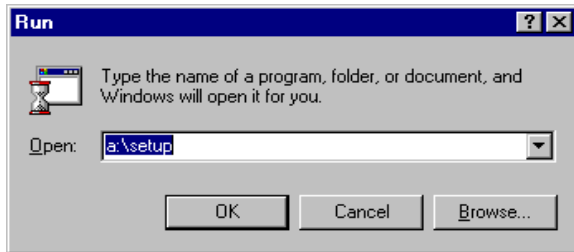

Figure 2-1. Starting the Installation Program
3. From the Windows NT 3.51 Program Manager, select **File, Run** (or click the **Start** button and select **Run** for Windows 95 or Windows NT 4.x). The Run dialog box appears (Figure 2-1).